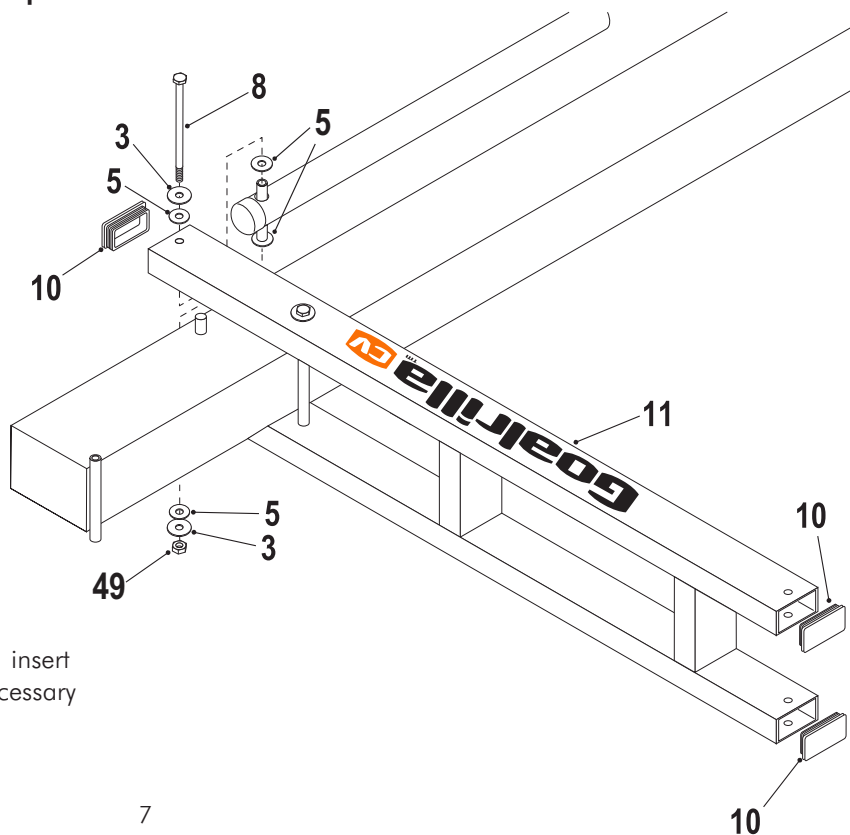

Figure 6
6. Secure Actuator (#16) to Lower Arm (#11) using one bolt (#8), two flatwashers (#3), four plastic washers (#5) and one thin locknut (#49). See Figure 6. Tighten both bolts (#8) **snug but, do not over tighten. Board Arms must pivot freely.**